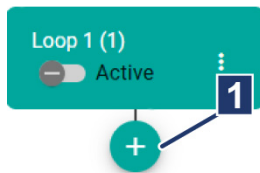

Fig. 7-5: Speaker circuit *Loop 1 (1)* > Create new ASRU
10. Under the speaker circuit click on  *Create new ASRU* (→ Fig. 7-5/1).